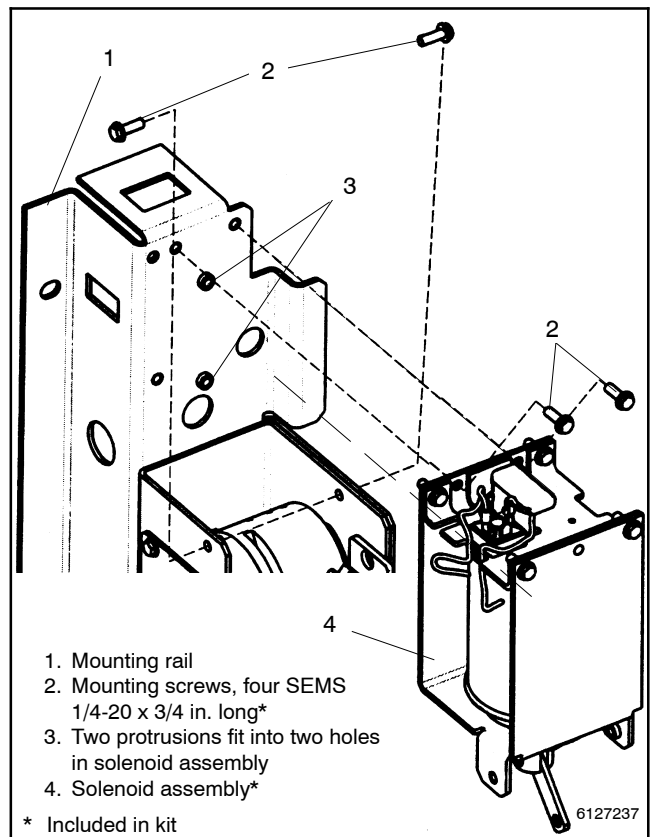

Figure 8-24 Solenoid Assembly
5. Remove the solenoid assembly. Use a 3/8 in. open-end or box wrench to remove four SEMS screws (two at the top, one on either side). See Figure 8-24.
7. Install the new solenoid assembly. Position the new solenoid assembly onto the mounting rail so that the two protrusions align with the holes in the solenoid assembly. The core link should be in the slot in the weight. Use a 3/8 in. open-end or box wrench to install four new 1/4-20 x 3/4 in. long SEMS screws (two at the top, one on either side). See Figure 8-24.